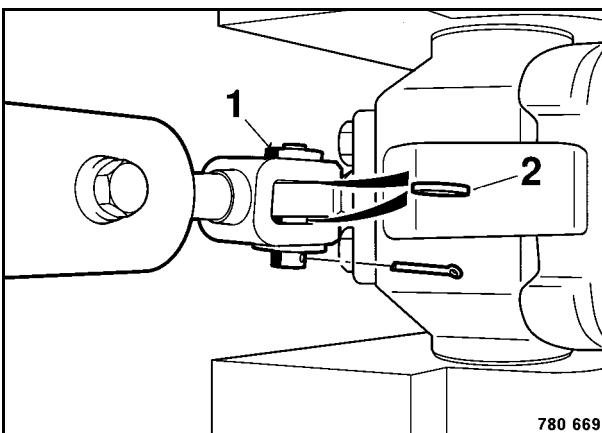

Fig. 3
8. Remove the split pin from the steering cylinder bearing bolt 1 (Fig. 3) and knock out the bolt.
9. Take off supporting discs (2).